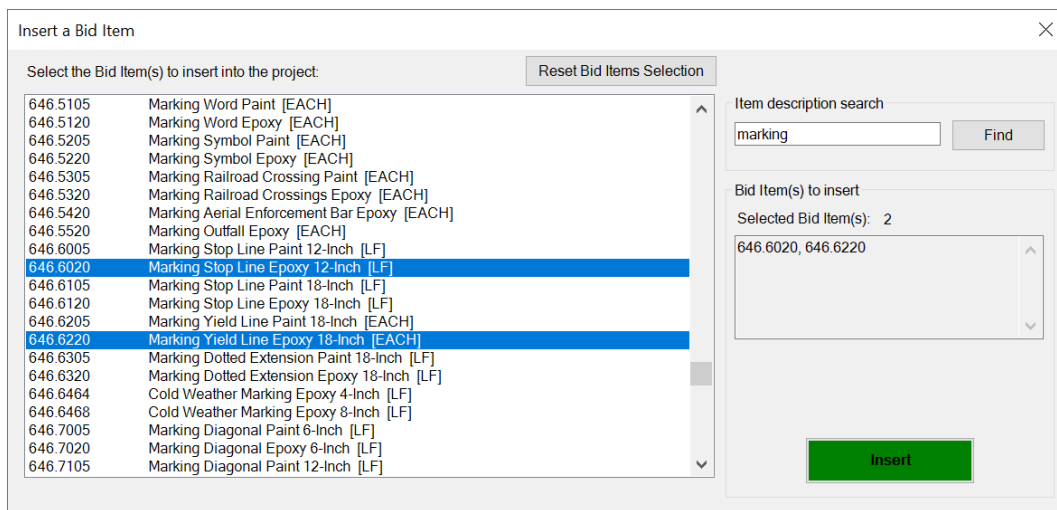

Figure 8.5 "Insert a Bid Item" dialog box.
- Select the desired bid item(s) from the "Insert a Bid Item" dialog box (Figure 8.5) to add to the existing MQ sheet and select "Insert" when finished.